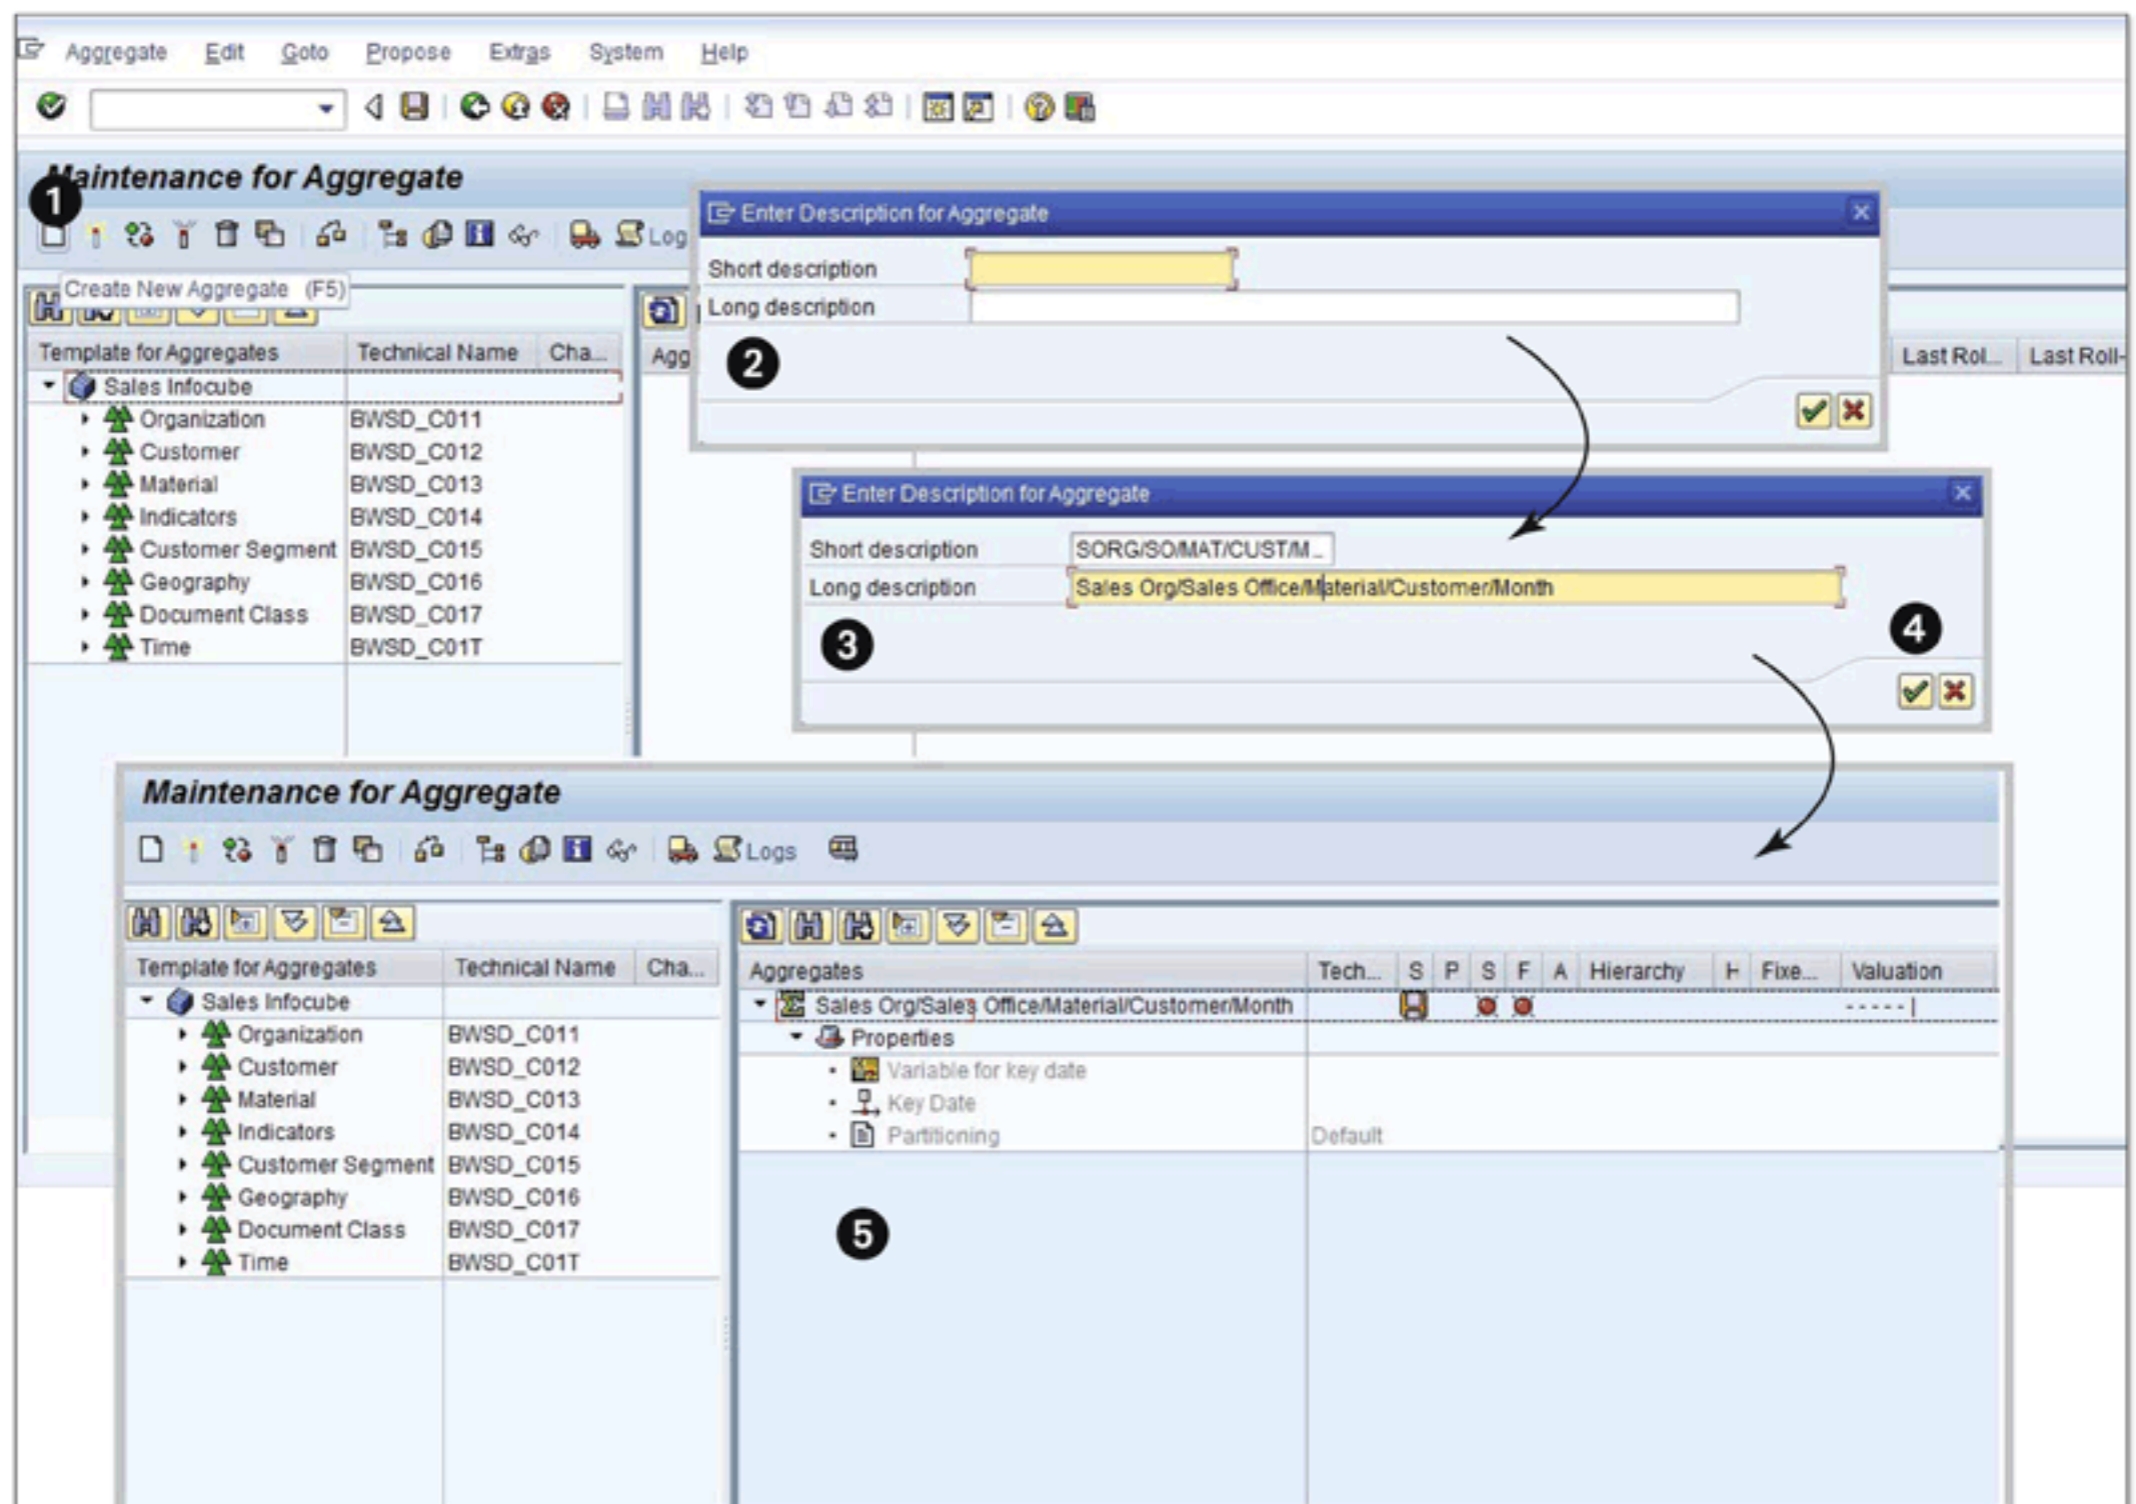

Figure 14.21 Create Aggregate
The system takes you to the maintenance screen for aggregates, which has two panels; the left panel shows the dimensions, characteristics, and navigation attributes of the selected InfoCube (1 of Figure 14.21). From the dynamic menu bar, click on the CREATE NEW AGGREGATE icon (□). A pop-up box appears, where you can enter the short and long text description for the aggregate (2). Enter the description (3), and click on the CONTINUE icon (4) to return to the MAINTAIN AGGREGATES screen (5).